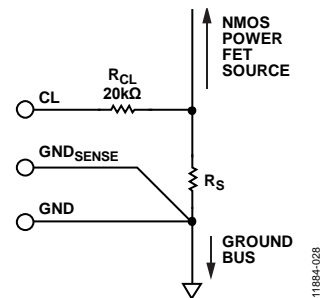
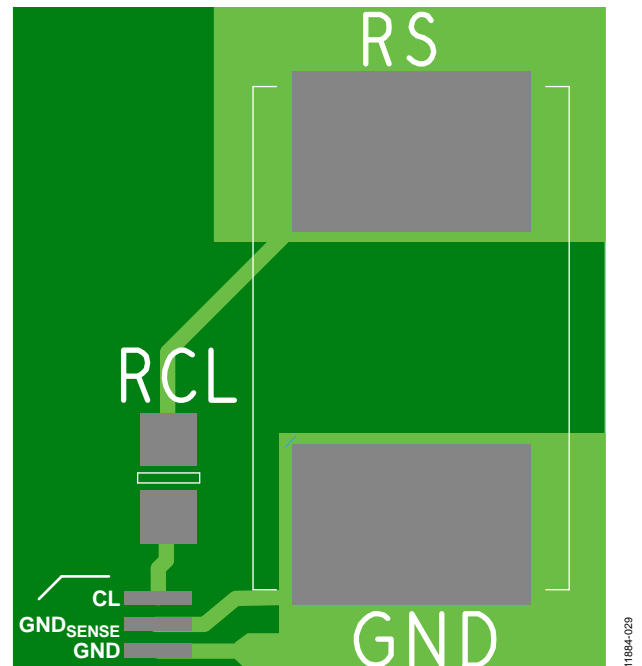

Figure 24. Recommended R_S Kelvin Ground Connection
Figure 25. Recommended R_S Kelvin Ground Connection on PCB Layout
- Use a Kelvin connection shown in Figure 24 and Figure 25 from the following: